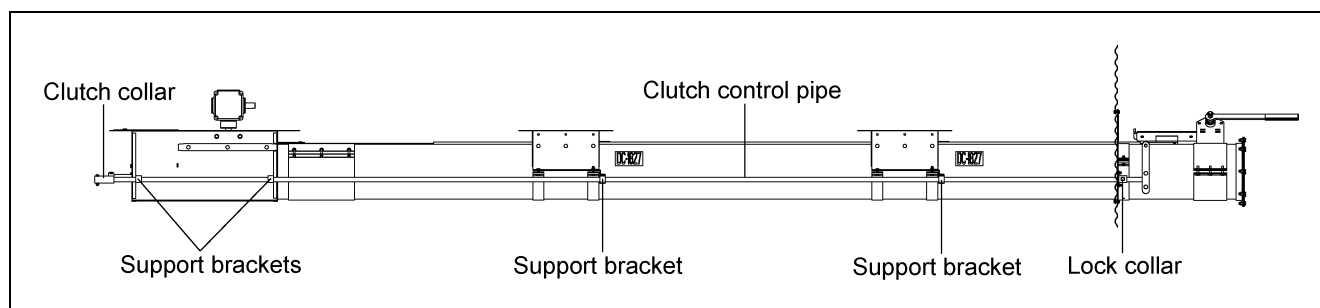
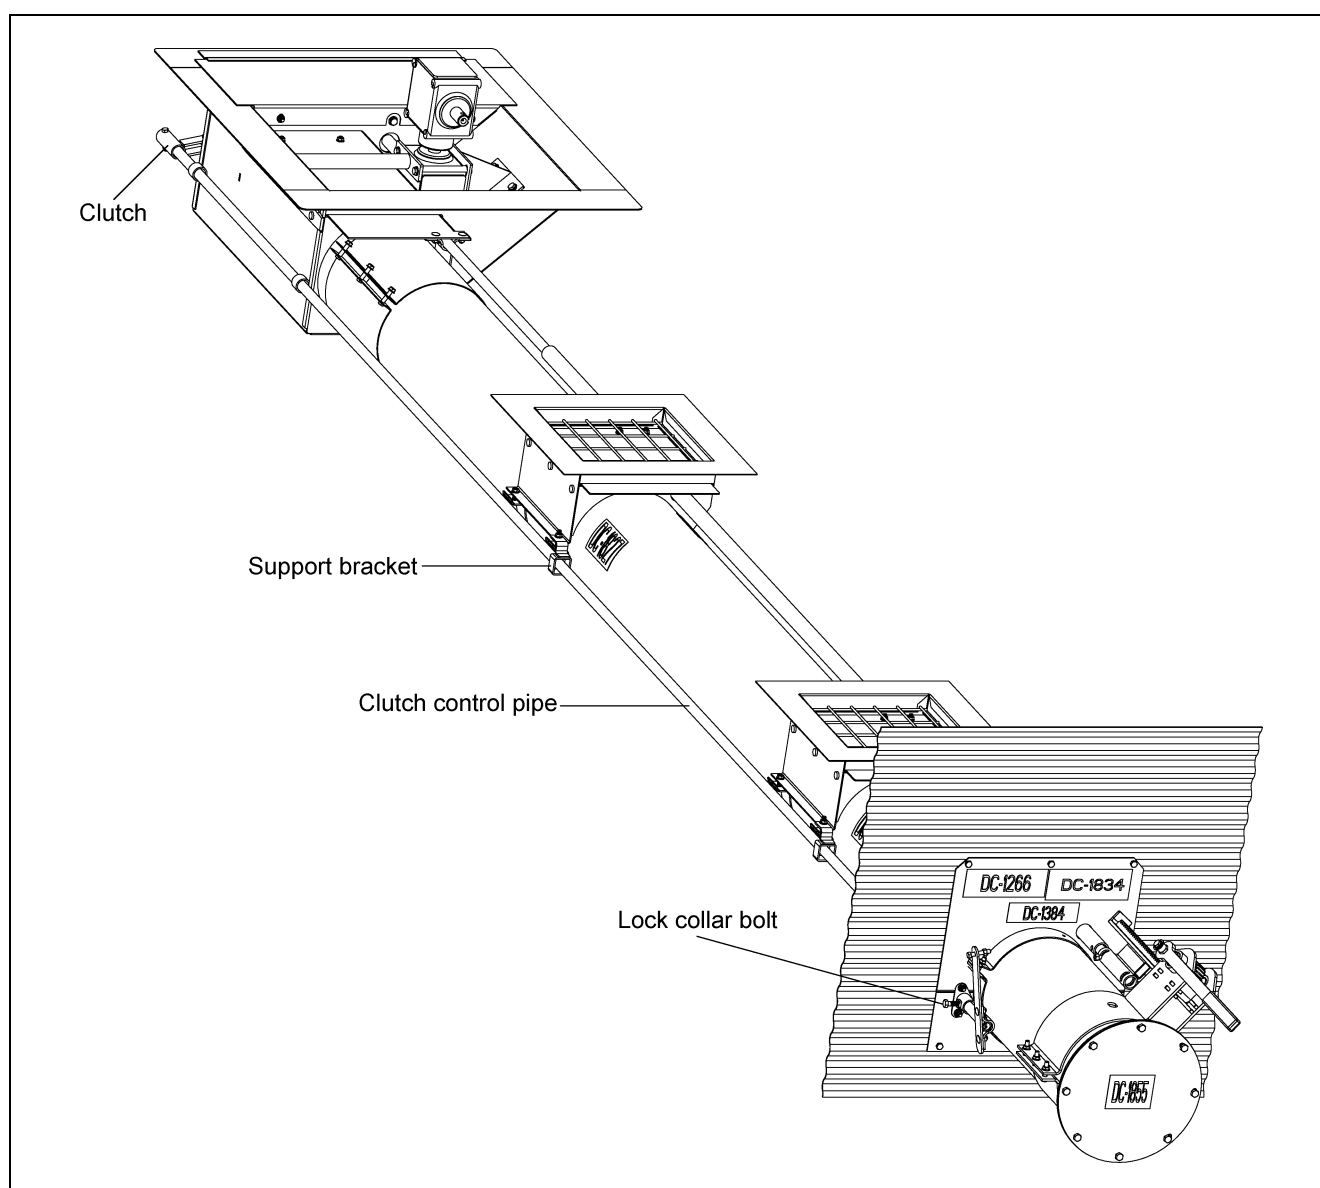

Figure 4S
Figure 4T
1. Slide the clutch control pipe through the bin flange and the support brackets on the intermediate and center wells. Slide the clutch control pipe into clutch collar on the center well. (See Figure 4S and Figure 4T.)